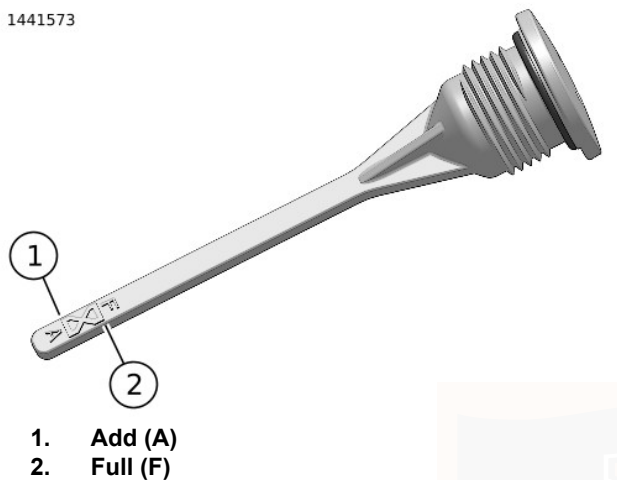

Figure 67. Transmission Lubricant Level
4. See Figure 67. Remove filler plug/dipstick. Check lubricant level on dipstick. Proper oil level is between the Add (A) (1) and Full (F) (2) marks.
1. See Figure 67. Remove transmission filler plug/dipstick.
6. Check lubricant level. Add enough lubricant to bring the level between the add (A) and full (F) marks. See Figure 67.